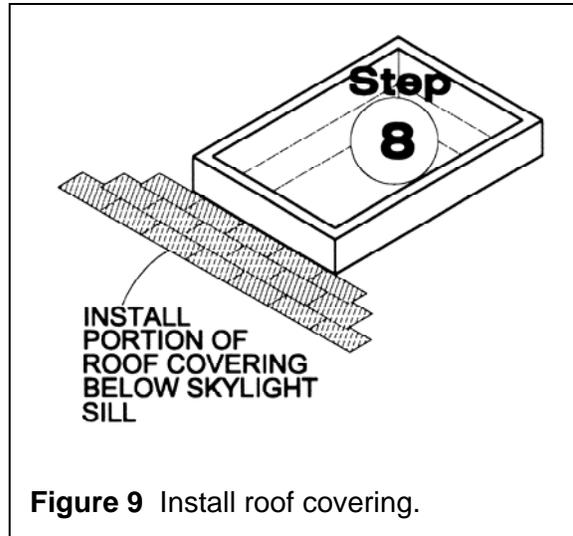

Figure 9 Install roof covering.
Step 8. Install a portion of roof covering below the skylight bottom (sill) curb. Coordinate position of roofing with final layout (see Figure 9).